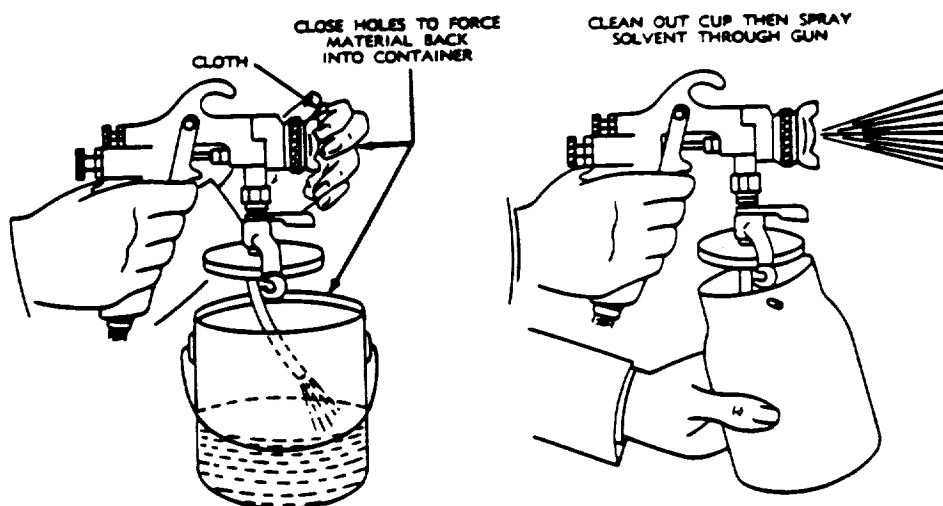

Figure 5-10. Spray Gun Cleaning
*b. Suction Cup Type.* Remove the cup, keeping the fluid stem inside the cup or container, as shown in figure 5-10, then hold a cloth over the air cap and pull the trigger. This directs air into the fluid passageways, and blows any paint that may be in the gun back into the container. After cleaning out the cup, clean the gun by spraying a small amount of clean naphtha or thinner through it. Extreme care should be exercised in the removal of the fluid tip so as not to split the tip or otherwise injure it or the fluid needle. When loosening the fluid tip, the trigger of the gun should be compressed so that the needle is not in contact with the tip; this eliminates the possibility of splitting the tip due to friction or sticking that is caused by dried paint. The entire spray gun should never be immersed in naphtha or thinner, as this removes lubricants and dries out the packing. Under no circumstances should the air or fluid ports of a gun or nozzle be reamed with any substance harder than soft wood, as a deformation of the spray pattern may result, and the spray gun may be rendered useless. To prevent wear, the working parts of guns should be kept lubricated with light machine oil. This requirement is especially true of the needle. The needle packing should also be kept pliable with an occasional drop of light lubricating oil.